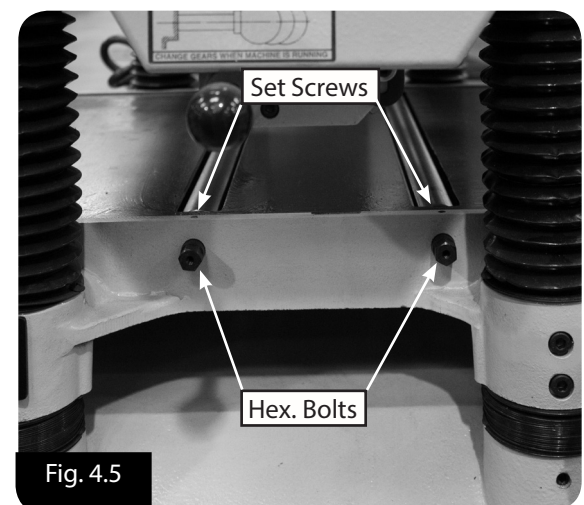

Fig. 4.5
3. Loosen the set screws above each of the four roller adjustment hex bolts, two on each side (Fig. 4.5).